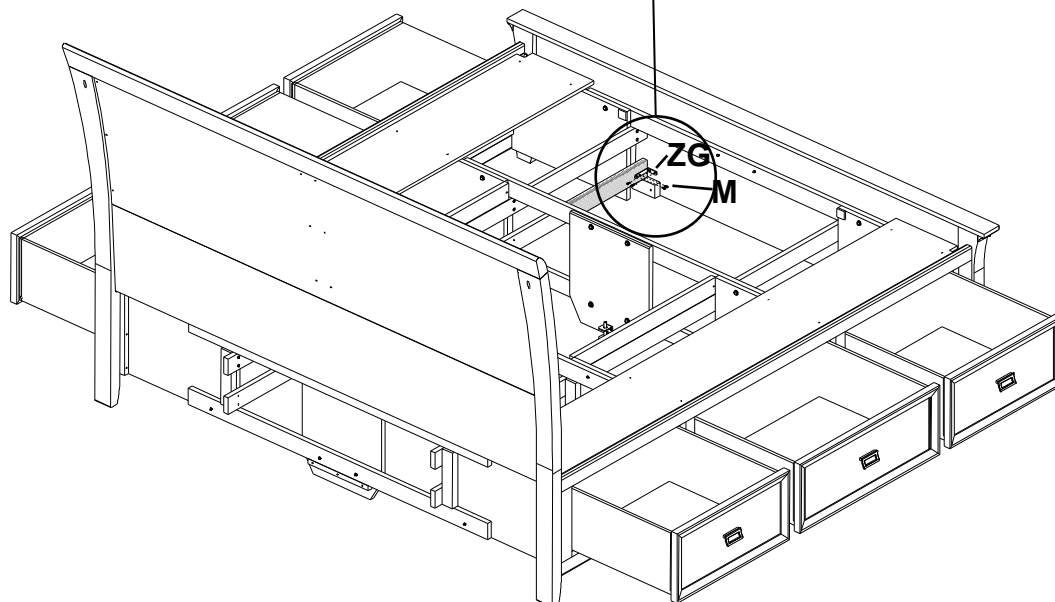

Fig. 10
10. Facing the Footboard, attach the Pedestal Assembly to the Footboard with a 90° Bracket (ZG) and four #6 x 1/2" Philtruss Screws (M). Repeat for the other side. See Figures 10 and 10a.